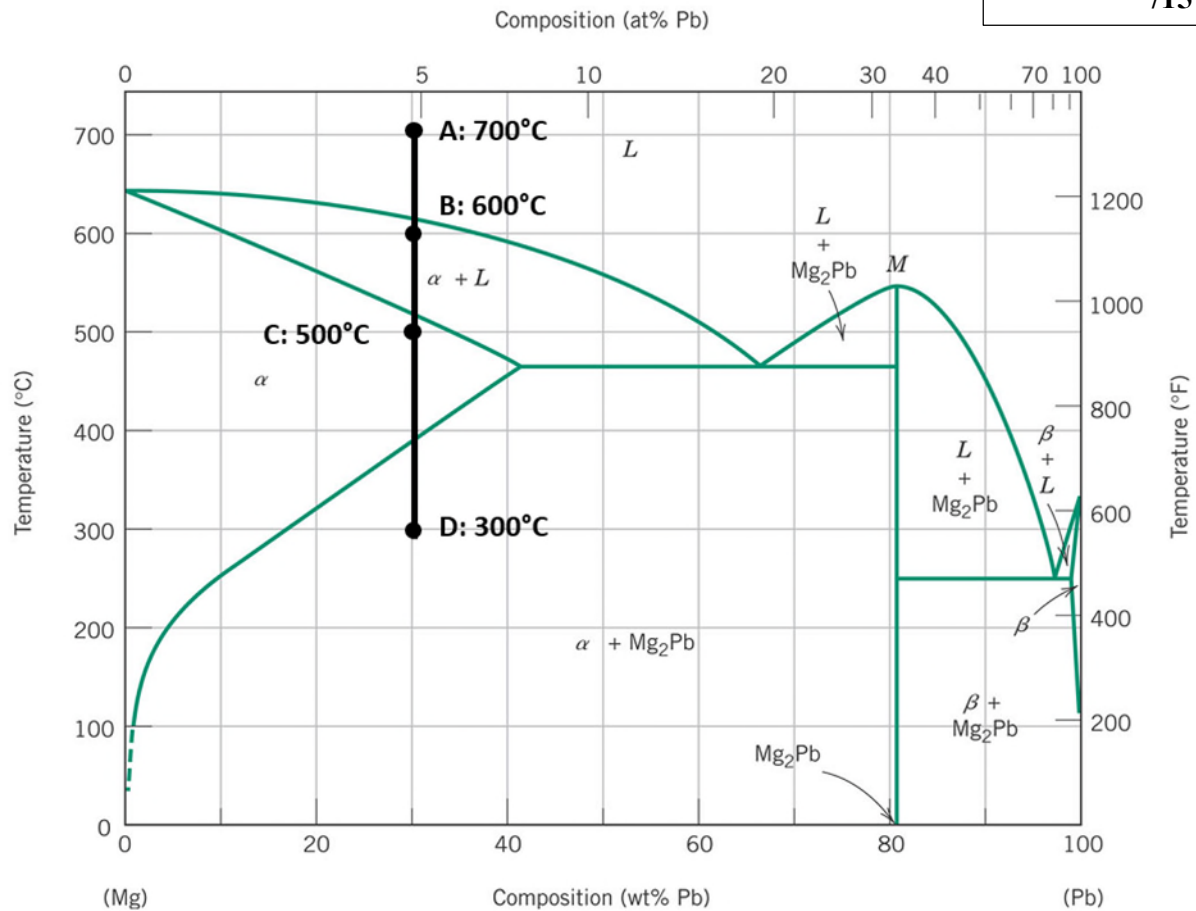

Figure 5: Mg-Pb phase diagram.
Based on the Mg-Pb phase diagram in Figure 5, find the following information.
- (d) Draw the microstructure evolution at point A, B, C, and D (as marked in Figure 5) for the Pb-Mg alloy with 30wt%-Pb cooling from 700 to 300 °C.